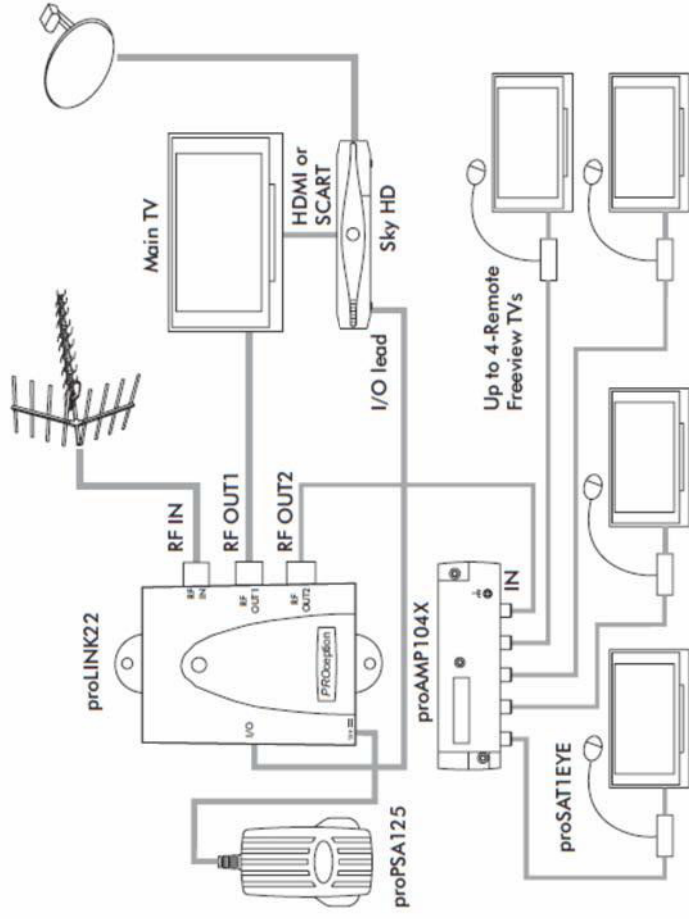

Fig. 2—1+4-way system using proAMP104X (or proMHD14R) amplifier.
- Fig 2 shows a 1+4-way system using a proAMP104X (or proMHD14R) amplifier.